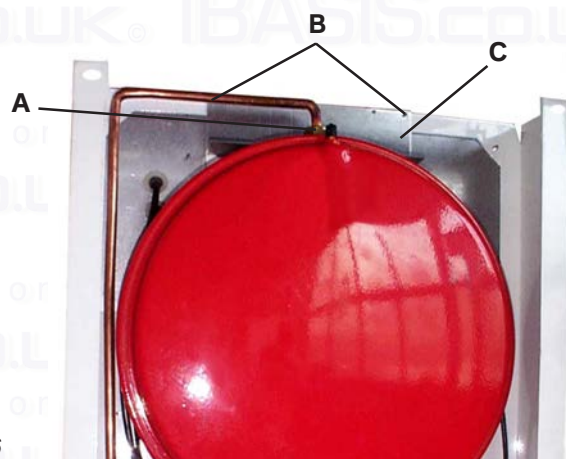

Fig. 26
7.04 Remove and re-presurising of C.H. expansion vessel (fig. 26)